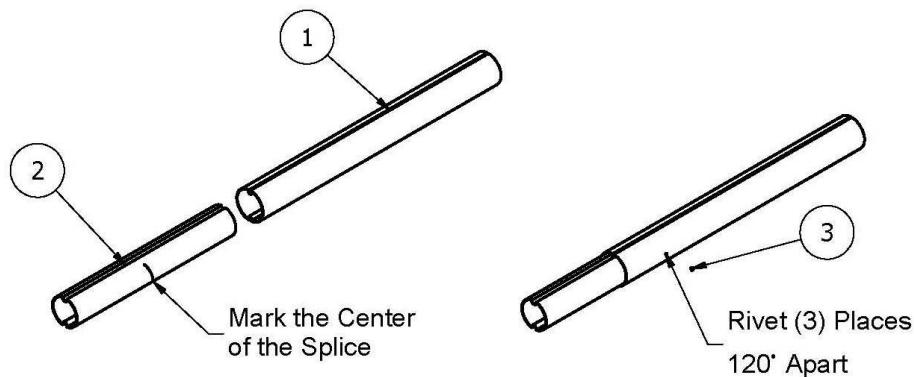

Figure 3
4. Install the splices at each joint of the drive tube. See figure 3 next page.
Refer to Figure 3 for the following step